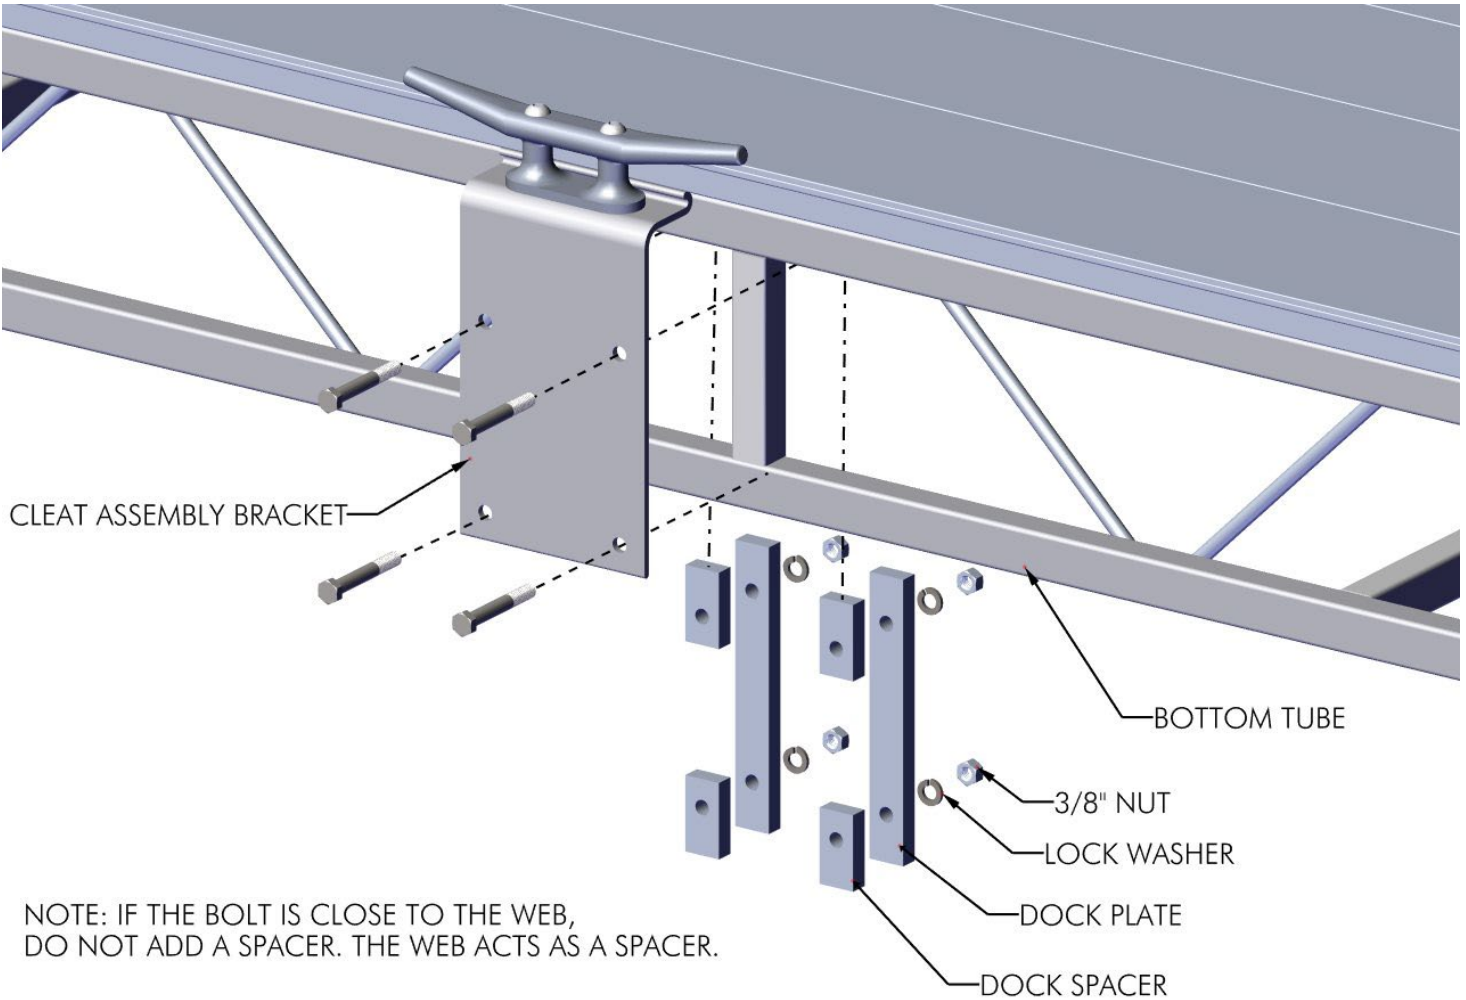

FIGURE 1
DETERMINE DESIRED LOCATION FOR THE DOCK CLEAT. INSERT THE 3/8" X 2-3/4" BOLTS THROUGH THE CLEAT BRACKET ASSEMBLY AND THROUGH THE (4) DOCK SPACERS, PLATES, LOCK WASHERS, AND ALUMINUM NUTS ON THE OPPOSITE SIDE OF THE DOCK SIDE (FIGURE 1).